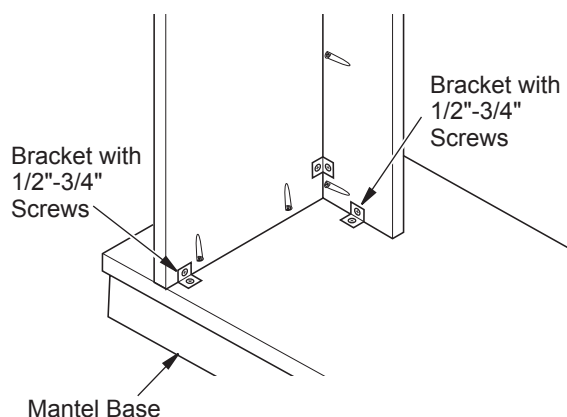

Figure 13 - Installing Brackets to Mantel Base
4. Attach mantel to base using 1 1/4" screws through pocket holes. Using brackets and 1/2" or 3/4" screws from bracket hardware kit, attach brackets to base and mantel assembly using one bracket at each back corner of leg sides and one on each leg front (see Figure 13).
2. Attach mantel to base using 1 1/4" screws through pocket holes. Using brackets and 1/2" or 3/4" screws from bracket hardware kit, attach brackets to base and mantel assembly using one bracket at each back corner of leg sides and one on each leg front (see Figure 13, page 4).